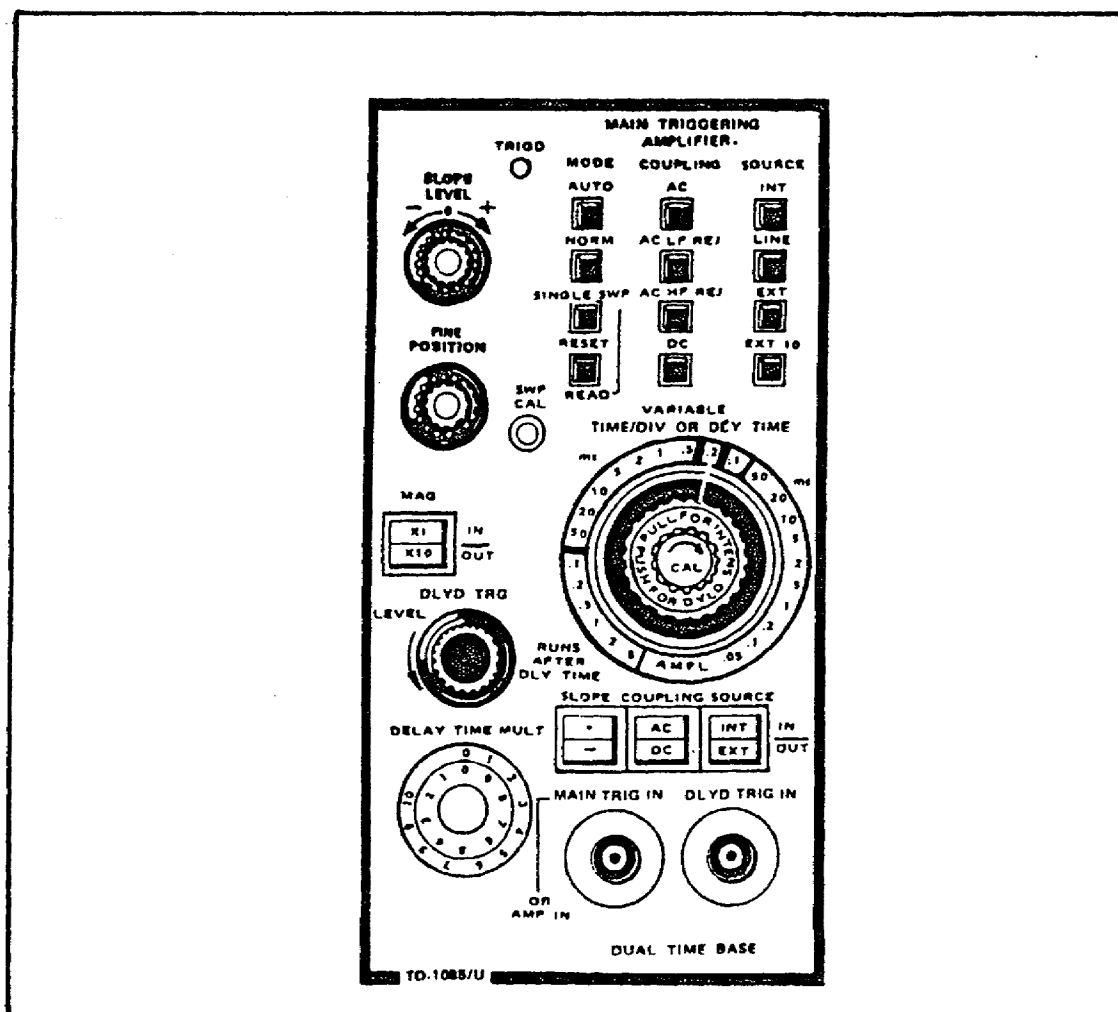

FIGURE 99. DUAL TIME BASE CONTROLS.
(3) *DUAL TIME BASE Front Panel* (figure 99).